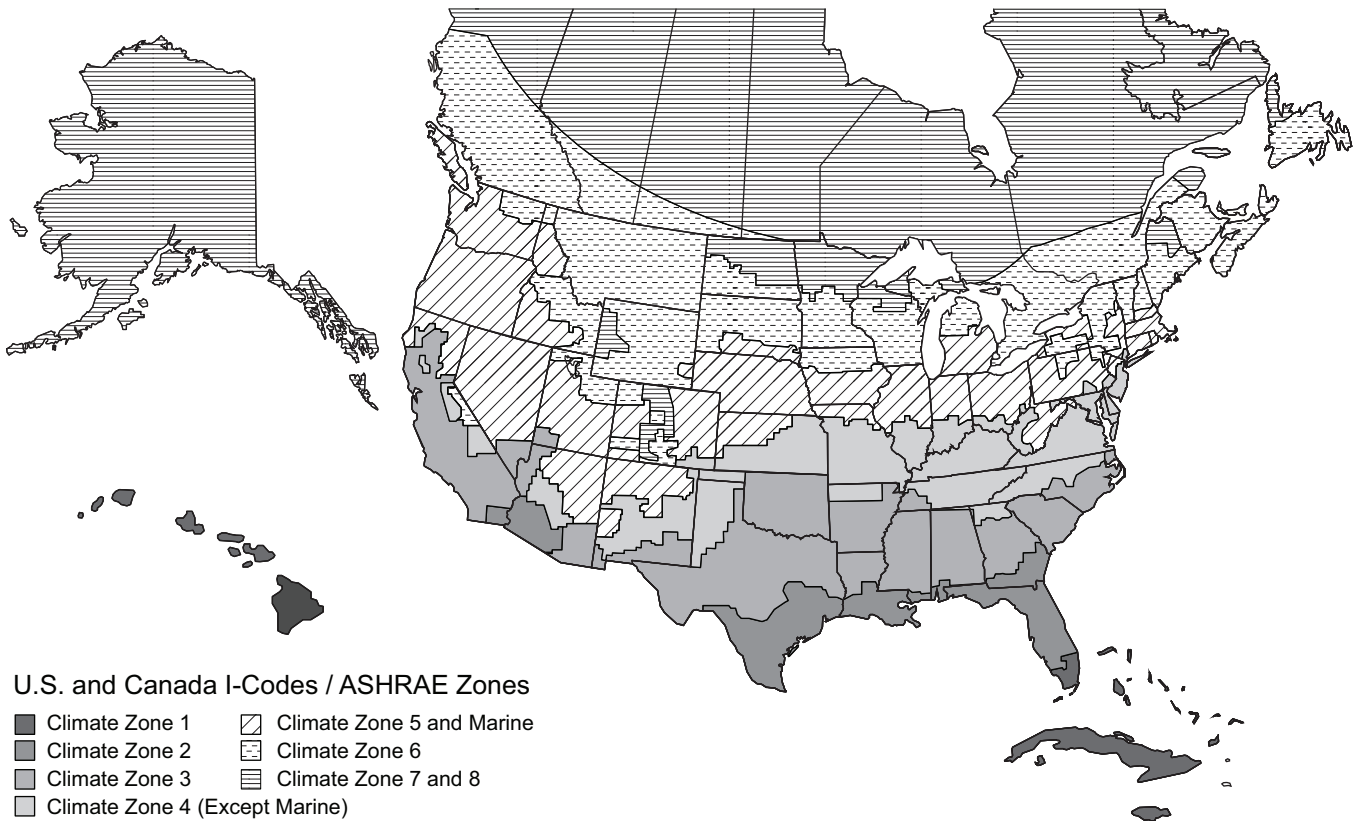

Fig. 30 — U.S. and Canada Climate Zones
- a. Refer to Fig. 30 for map of U.S. and Canada climate zones.